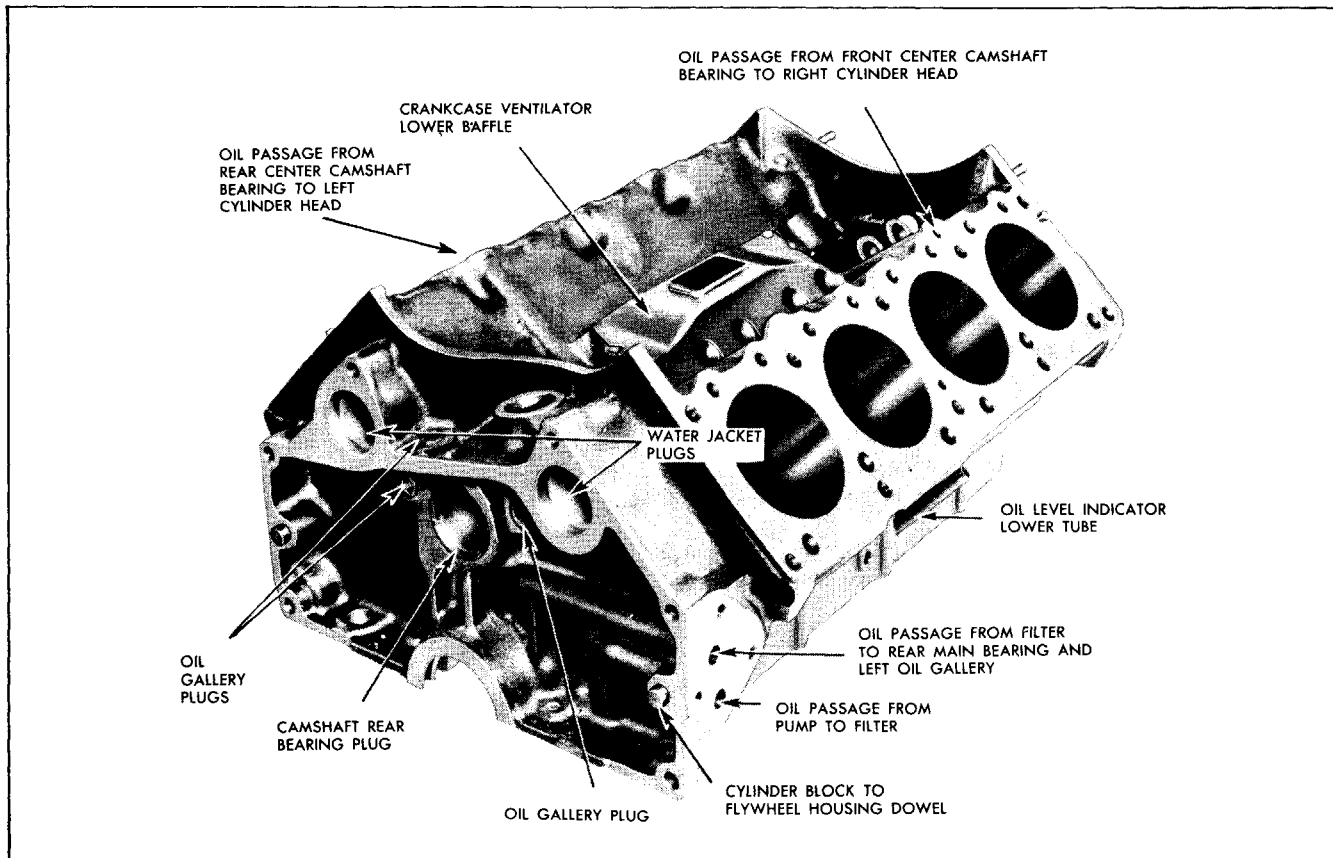
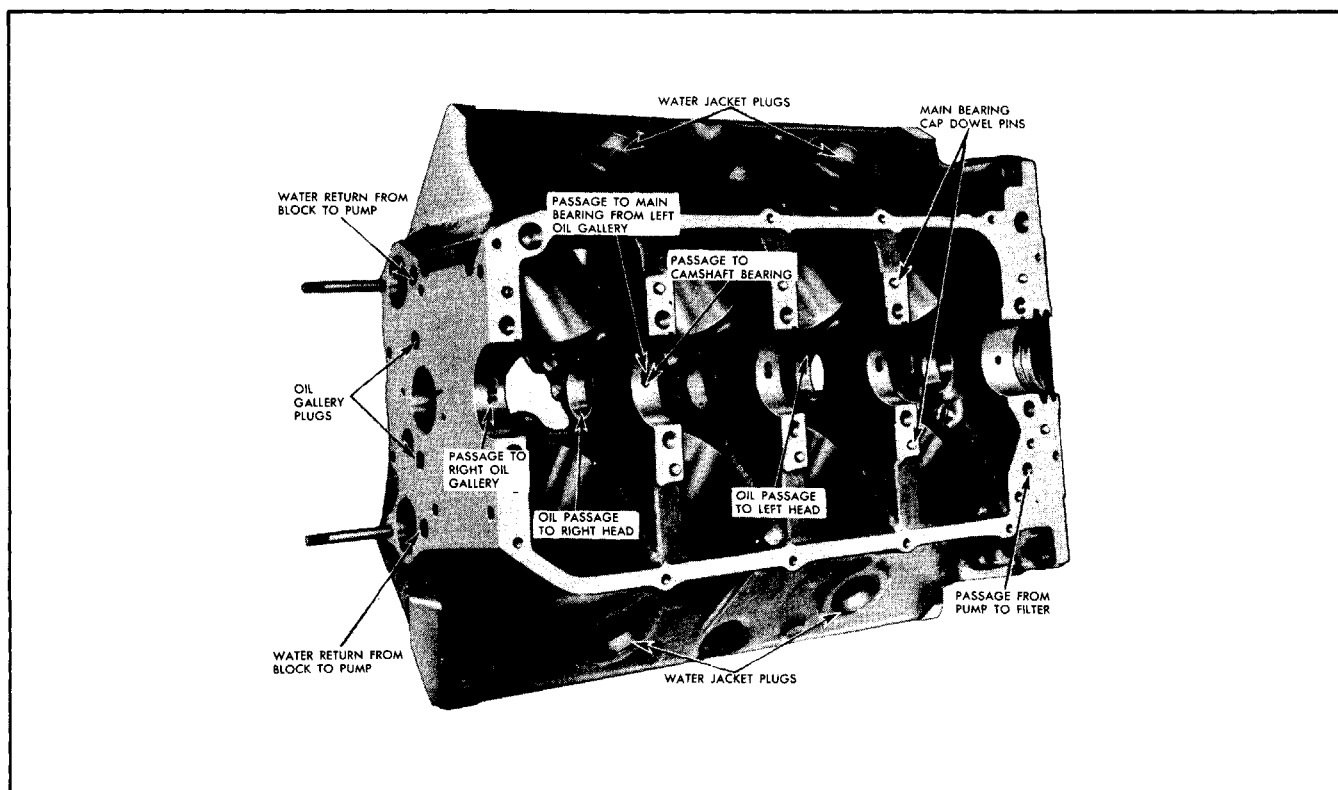

Fig. 6-54 Cylinder Block—Viewed from Right Rear
Fig. 6-55 Cylinder Block—Viewed from Bottom
4. Flush out all oil passages in the block (refer to "Oil Circulation", page 6A-4) with suitable pressure type cleaning equipment using tri-sodium phosphate and hot water, steam, or equivalent cleaning solvent. NOTE: The oil passages (Fig. 6-54) in the block which supply oil from the front center and rear center camshaft bearings to the right and left cylinder heads respectively are considerably larger than the oil holes in the camshaft bearings (Fig. 6-55). Due to this fact, sludge may collect in the passages above these bearings and may subsequently be forced into the oil galleries of the cylinder head, causing possible restriction of the oil passages in the rocker arm studs. For this reason these passages should be thoroughly cleaned and inspected.
a. With cylinder block inverted, use pen light to see that passage from oil pump to filter is open (Fig. 6-55).
b. Check passage from filter outlet to rear main bearing by inserting wire in oil filter outlet passage and using pen light to see that wire is visible in passage to rear main bearing (Fig. 6-54).
c. Visually check passage from each main bearing to corresponding camshaft bearing (Fig. 6-55).